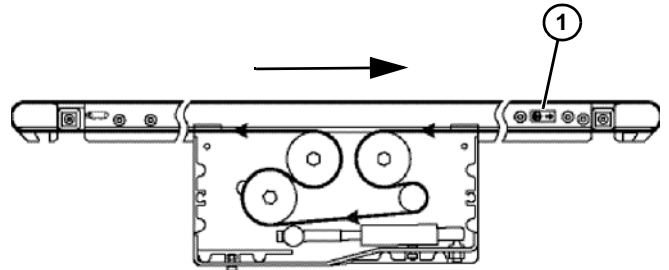

Figure 61
On a center drive conveyors, belt travel direction is identified by an arrow decal on the side of the conveyor (**Figure 61, item 1**) & (**Figure 62, item 1**).